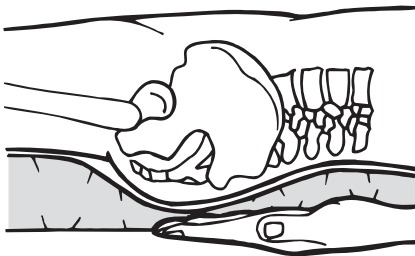

Figure 6—HAND CHECK showing **improper** inflation
- c) If, during full inflation of air cell, the patient's body is in direct contact with your flat hand, the system is not operating properly. See figure 6. Adjust the pressure control to a higher setting. Wait ten (10) minutes and repeat the HAND CHECK. If HAND CHECK fails, check that the hose assembly is not kinked or pinched. If repeated HAND CHECK fails and hoses are not kinked, contact your dealer or Gaymar for further instruction.